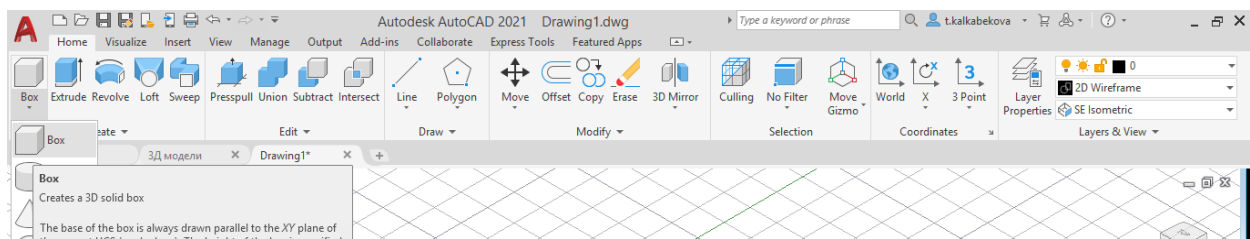

Figure 6.2 – Using the Drawer tool
6.2.2 Go to the tab "Home" => "Layers and View" and set the view "SW isometric", and then select the tool "Box" or "Box" (figure 6.2).